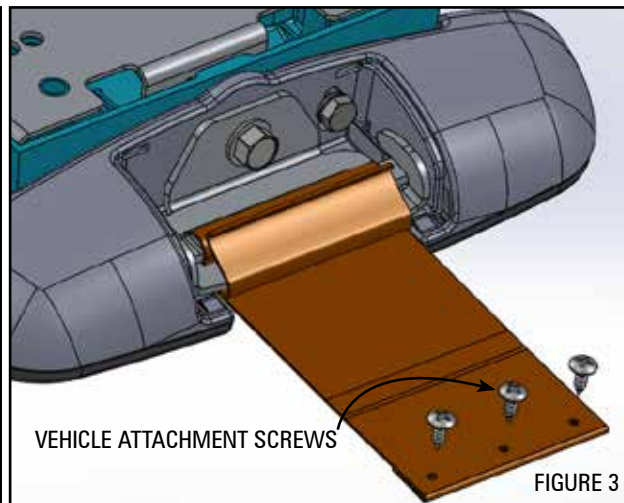

FIGURE 3
5. Using the three vehicle attachment screws secure the webbing to the inside edge of vehicle rail. (Figure 3, Page 1)